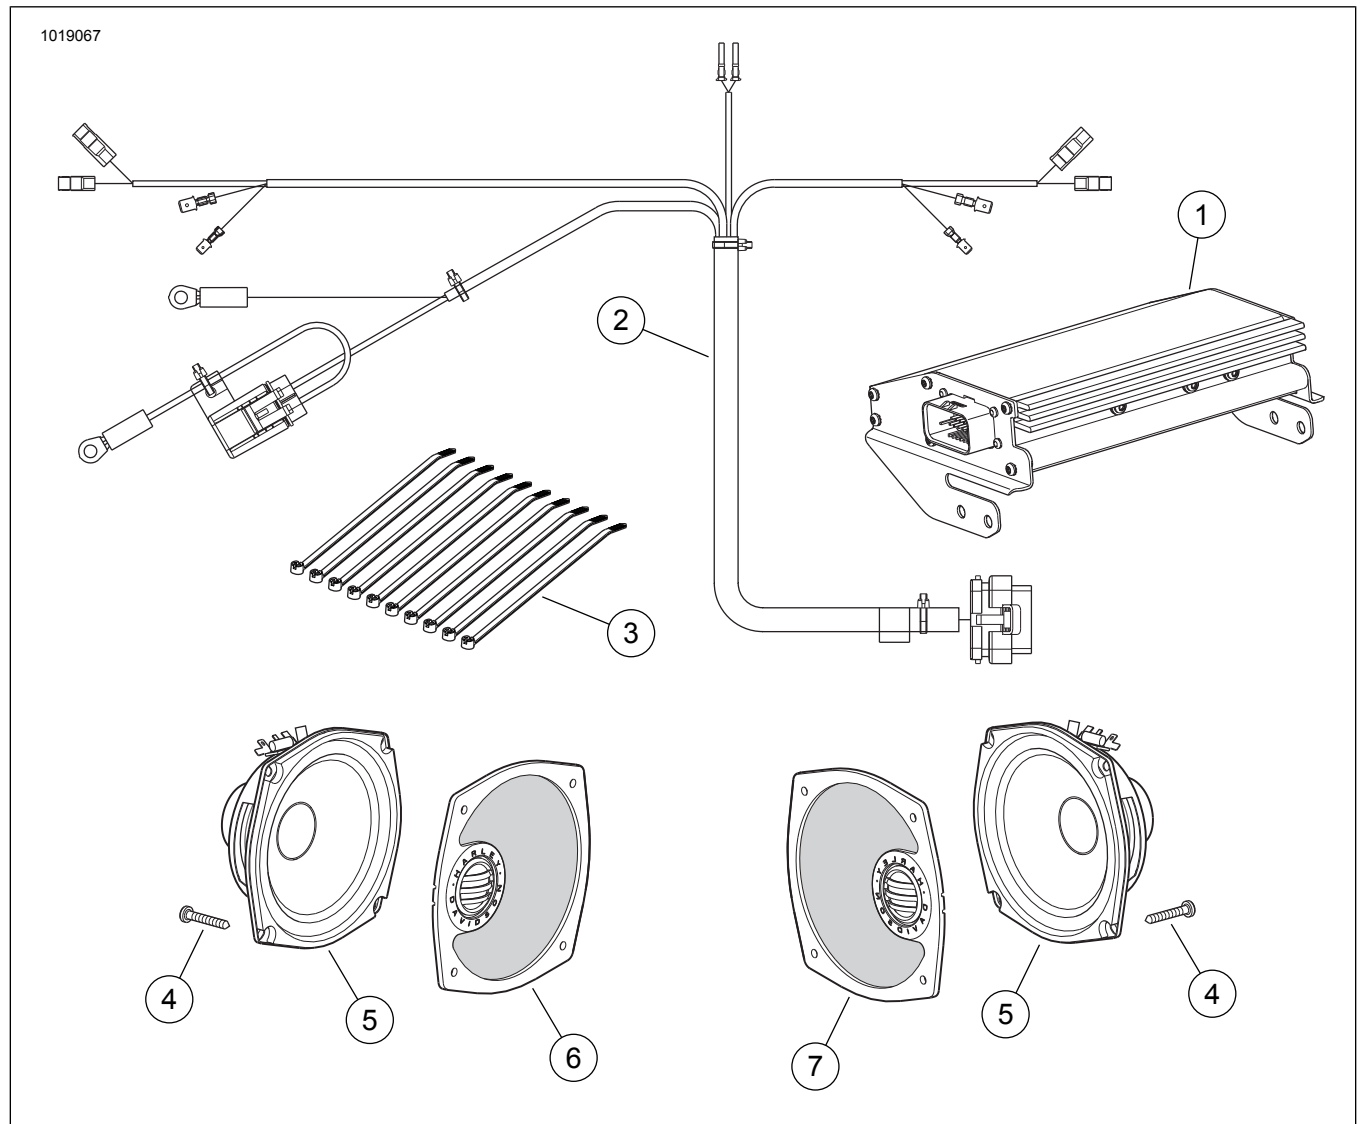

Figure 7. Service Parts, Boom! Audio Amplifier Kit
1. See Figure 7. Get the amplifier harness (2) from **this** kit.